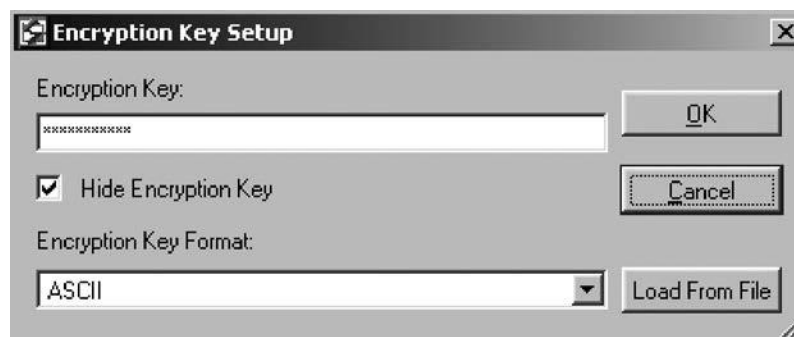

Figure 10.3. Encryption Key Dialog Window
2. Double-click on **Input Data File** and browse to the non-encrypted bitstream created using ispLEVER or Diamond. Double-click on **Output Data File** and select an output file name. Right-click on **Encryption** and select ON. Right-click on **Configuration Mode** and select the type of device the FPGA is configuring from, such as SPI Serial Flash. Right-click on **Encryption Key** and select **Edit Encryption Key**. You can see a window that looks similar to Figure 10.3.